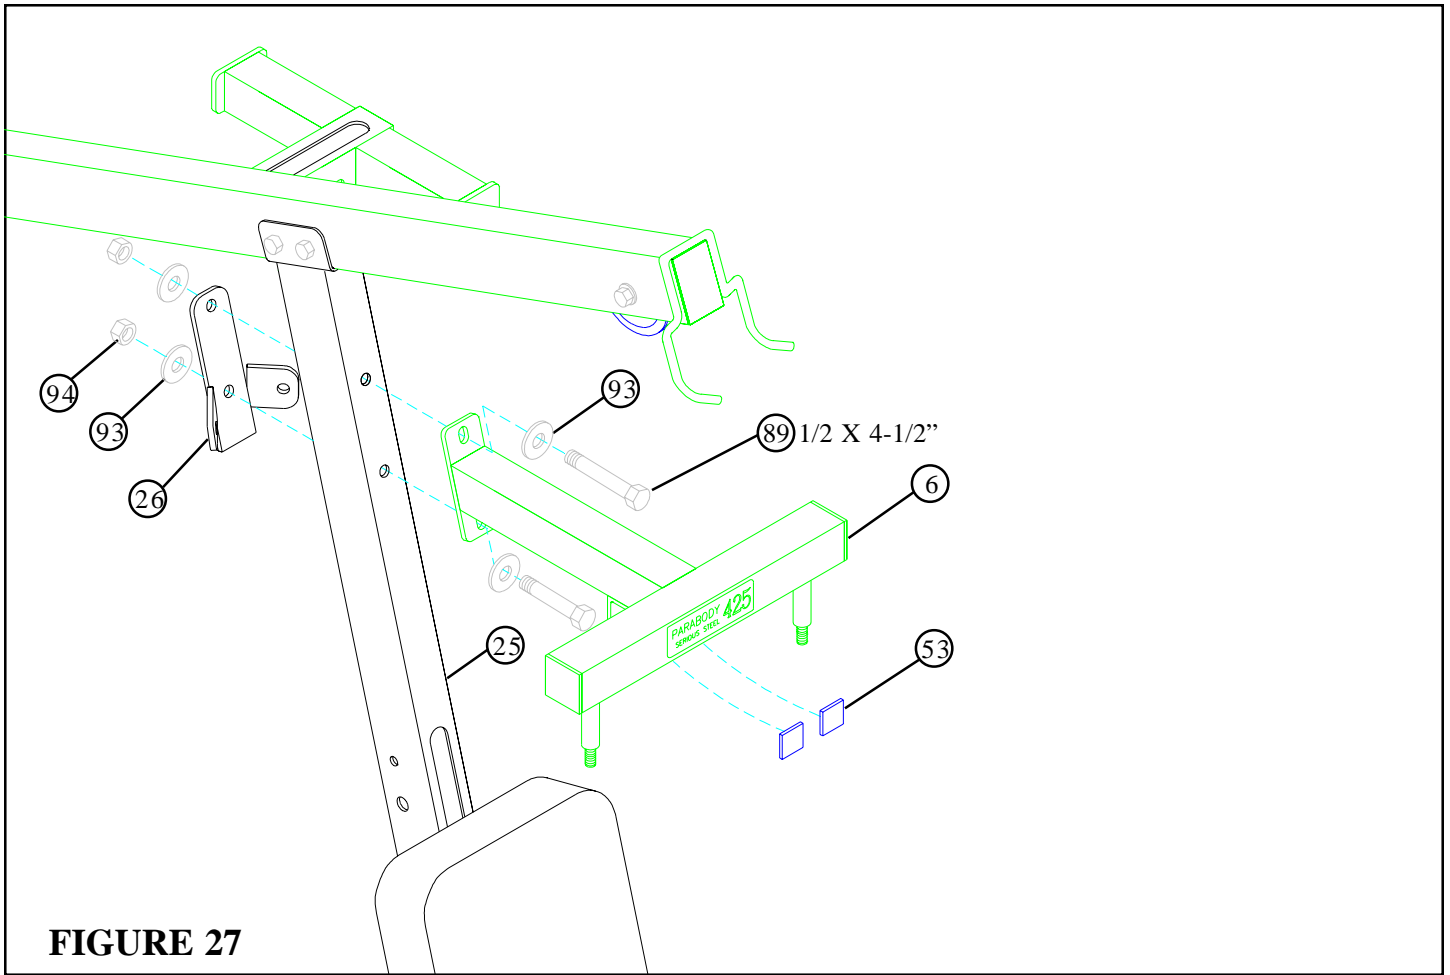

FIGURE 27
- **SECURELY** assemble the BEARING HOUSING (6) and the CENTER PULLEY BRACKET (26) to the FRONT UPRIGHT (25) using two 1/2 X 4-1/2" BOLTS (89) , four 1/2" WASHERS (93), and two 1/2" LOCK NUTS (94). See FIGURE 27.
- Attach two 1 X 1" GUIDES (53) to the ANGLE on the **UNDERSIDE** of the BEARING HOUSING (6). See FIGURE 27.